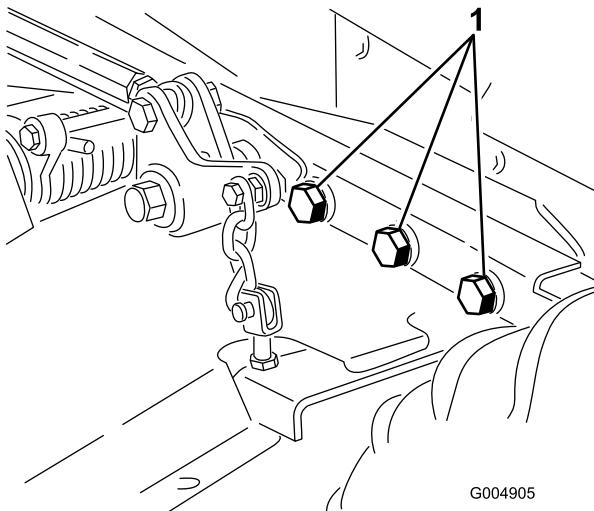

Figure 79
4. Check all fasteners for looseness and tighten them as necessary. Especially torque the 6 bolts securing the mower deck frame to the traction unit (Figure 79) to 359 N·m (265 ft-lb).